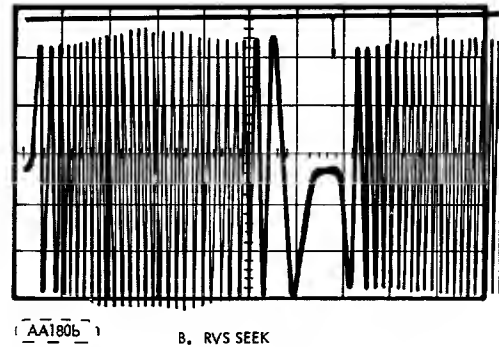

FIGURE 6-17B. REVERSE SEEK
20. Monitor "On Cylinder" signal from field tester and adjust velocity gain potentiometer R73 (see Figure 6-14) for a seek time of 35 ± 1 milliseconds (see Figure 6-17b). Adjust sync to get correct waveform.
27. By resyncing oscilloscope obtain a reverse seek waveform (see Figure 6-17b). The peak to peak amplitude of the last full sinewave before "On Cylinder" goes negative must be 5 ± 0.5 volts.